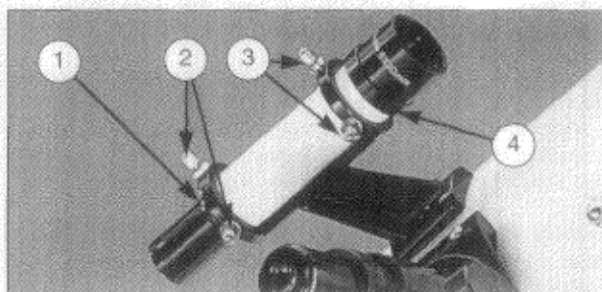

Fig. 4: 6 x 30mm Viewfinder. (1) Mounting Bracket; (2) Rear-most Alignment Screws; (3) Front-most Alignment Screws; (4) Viewfinder Focus Lock Ring.
1. Remove the viewfinder from its mounting bracket (1 Fig. 4) by slightly unthreading the six alignment screws until the viewfinder can slip out easily.
2. Loosen the viewfinder focus lock ring (4, Fig. 4) at the objective-lens-end of the viewfinder, enabling rotation of the objective lens cell clockwise or counterclockwise for precise focusing while looking at a distant object through the viewfinder.
- The viewfinder bracket (1, Fig. 4) includes six alignment screws. Turn the three rear-most alignment screws (2, Fig. 4) so that the viewfinder tube is roughly centered within the viewfinder bracket, as viewed from the eyepiece-end of the telescope.
- While looking through the viewfinder, gently turn one or more of the three front-most viewfinder alignment screws (3, Fig. 4) until the crosshairs of the viewfinder point at precisely the same position as the main telescope. During this procedure, occasionally look through the main telescope to make sure the object is still centered.